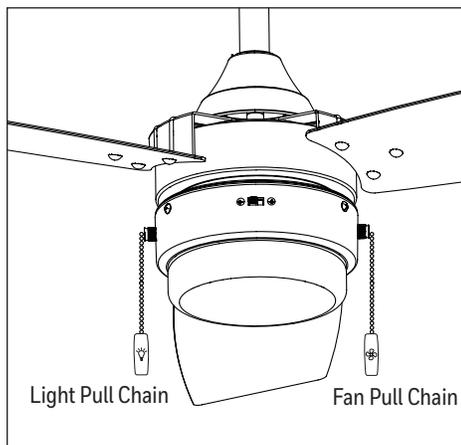

Figure 6.1
1. The fan pull chain has four positions to control fan speed. One pull is HIGH, two is MEDIUM, three is LOW and four turns the fan OFF. The light pull chain has two positions -- OFF and ON (Figure 6.1).